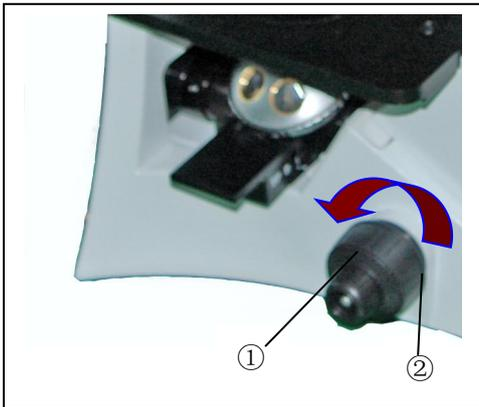

Fig 8
2.2.6 Installing the objective (Fig8, Fig9)